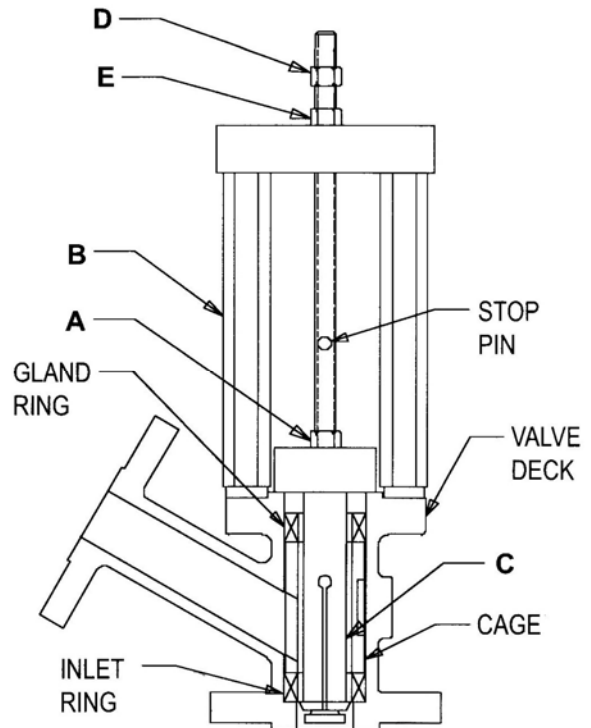

Figure 1 – Drain valve body assembly with ring puller installed
1. Turn nut "A" (See Fig. 1) Counterclockwise to stop pin.